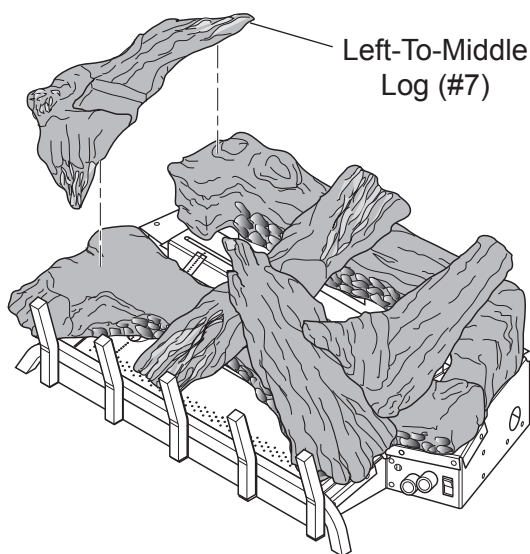

Figure 36 - Installing Right Left-To-Middle Log (#7)
7. Install left-to-middle log (#7) on left end of back log and left bottom log. *See Figure 36.*